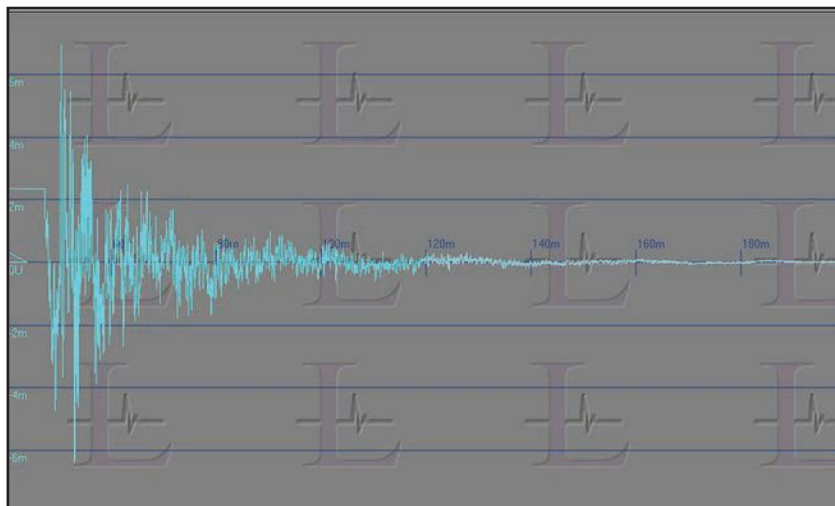

Figure 1: The impulse response of a listening room shows the room’s effect on the sound in the time domain.
Figure 1 shows the impulse response (IR) of a somewhat unusual listening room. This IR shows the decay of acoustical energy over time. An example of an early:late ratio is "Clarity index" or "C80." C80 is the 10× the log of the ratio of total energy contained in the first 80 ms after the onset of an impulsive sound to the total energy after 80 ms. Clarity is specified in decibels and the acceptable range is about +1 to -4 dB, although the best concert halls have C80 between about -1 and -4 dB.
One of the earliest tests tied in an attempt to measure the room’s effect on articulation was the low-frequency square-wave test. The results were not always enlightening, because no speaker can truly reproduce a square wave, although an excellent low-frequency horn comes closest. Next, engineers realized that a series of low-frequency tone bursts (see **Figure 4a**) would more nearly simulate musical articulation, and would be a test signal that a good speaker system could inject into the room. **Figure 4b** shows a series of 40-Hz tone bursts recorded in the room whose impulse response was shown in **Figure 1**. Notice that the tone-burst test shows that the pulse train takes a few cycles to build to full amplitude, and then takes a longer time to decay after the pulse signal ends.